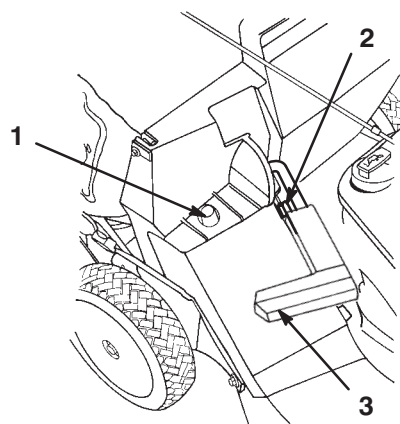

Figure 14
2. Ensure that the discharge door handle is fully forward and that the pin is contacting the catch (Fig. 14).
3. Slide the hole in the bag frame onto the retaining post on the housing (Fig. 14).
2. Raise the discharge door handle and move it forward until the locking pin contacts the catch (Fig. 14).